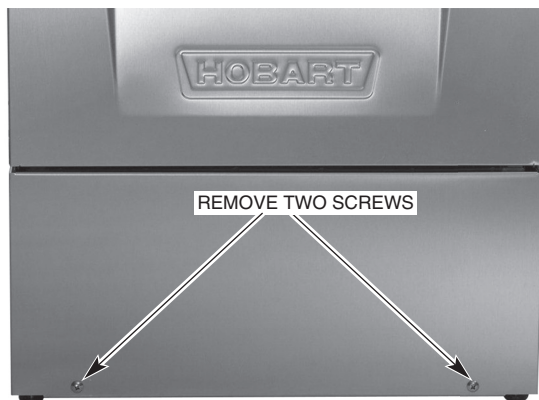

Fig. 1
1. Remove the lower front panel by removing the two screws at the bottom of the panel (Fig. 1).